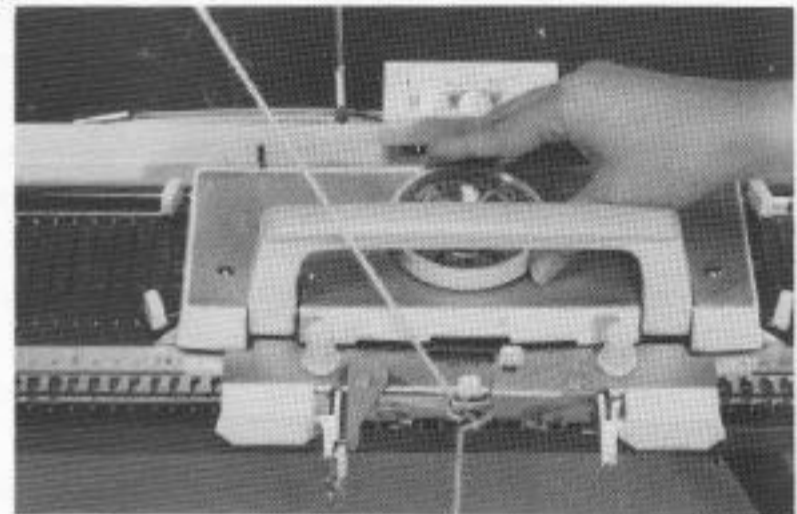

Fig.38
- a) Set tension dial to No.2 or 3. (Fig.38)